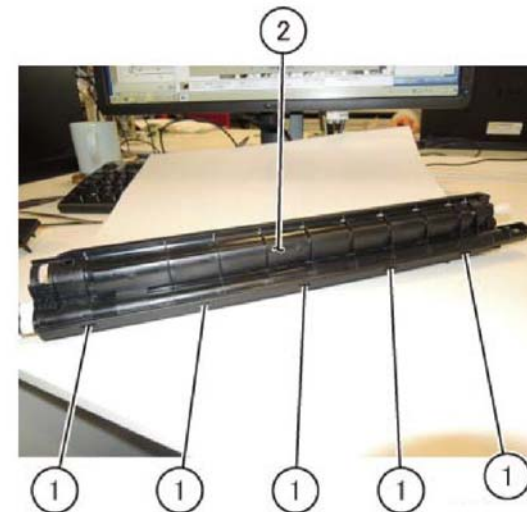

Figure 3 New upper SUB cover assembly
6. Remove the new upper SUB cover assembly, Figure 3.
- a. Release the five hooks (1).
- b. Remove the upper SUB cover assembly (2).